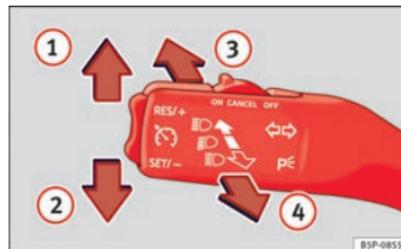

Fig. 73 Turn signal and main beam lever
- Move the lever all the way up \Rightarrow Fig. 73 ① to indicate **right**, and all the way down ② to indicate **left**.
- If the dipped lights are on, push the lever forward \Rightarrow Fig. 73 ③ to switch on the main beam.
- Push the lever towards the steering wheel \Rightarrow Fig. 73 ④ to switch off the main beam.